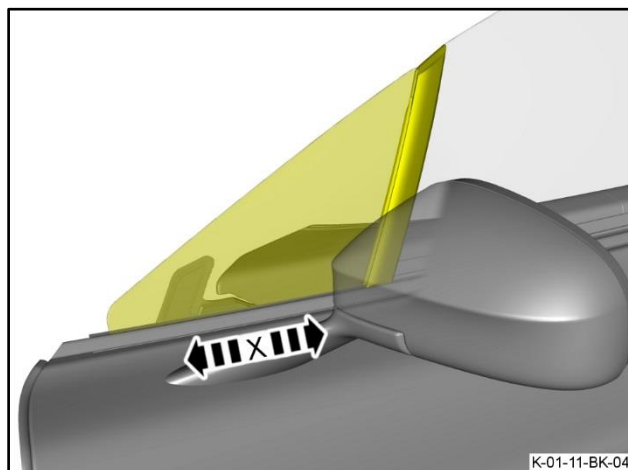

Figure 39
27. If the division bar and quarter glass assembly does not follow the curve of the front door glass, adjust it on its X axis (refer to Figure 39).